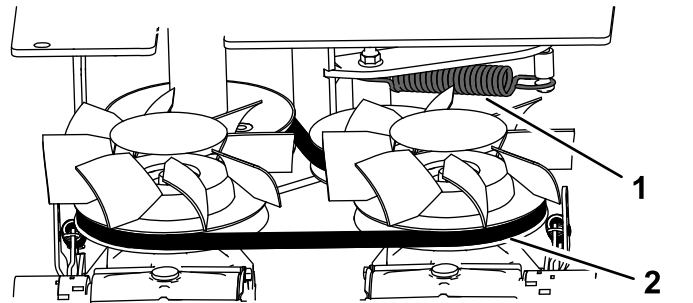

Figure 38
4. Inspect the belt (Figure 38). Replace the belt if it is worn; refer to (page).
1. Rear bolt (2)
3. Side bolt (4)
6. Remove the extension spring (Figure 38).
11. Install the extension spring (Figure 38).